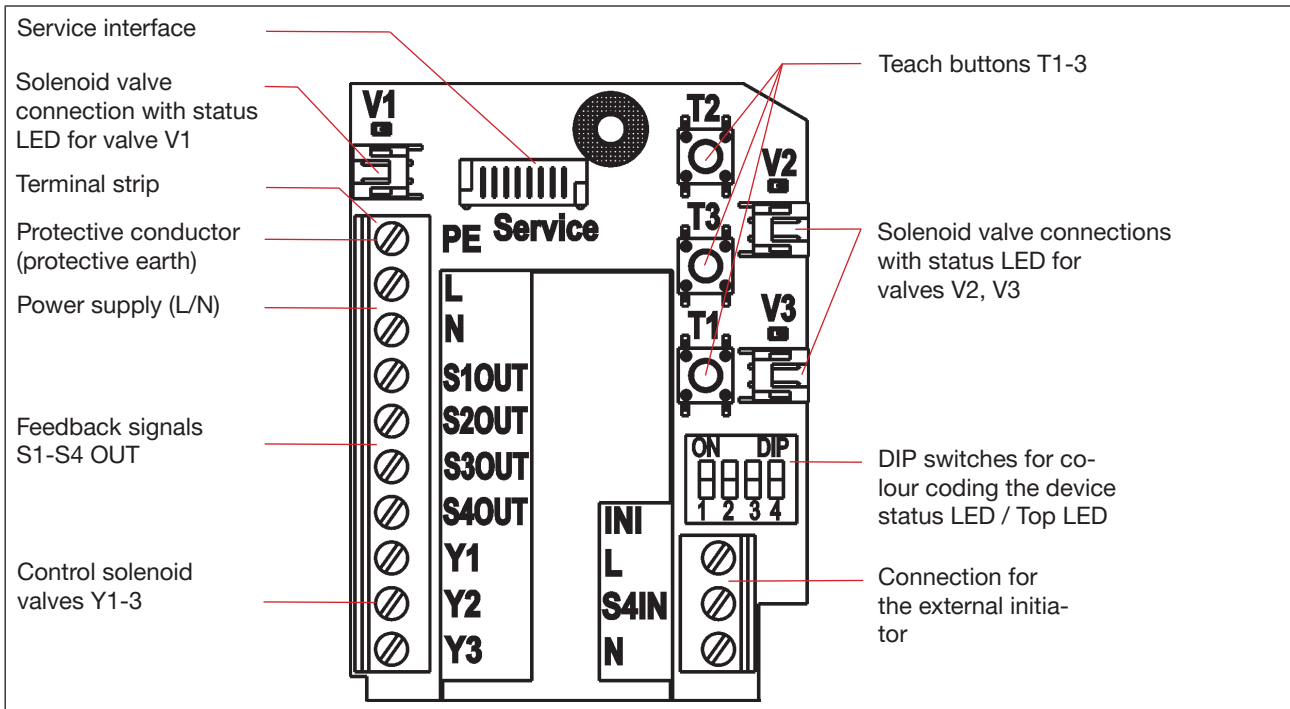

Fig. 19: 120 V AC electronic module
- Connect the wires to the connection terminals according to the connection configuration described in “Fig. 19: 120 V AC electronic module”. If required, secure the cable with a cable clip.